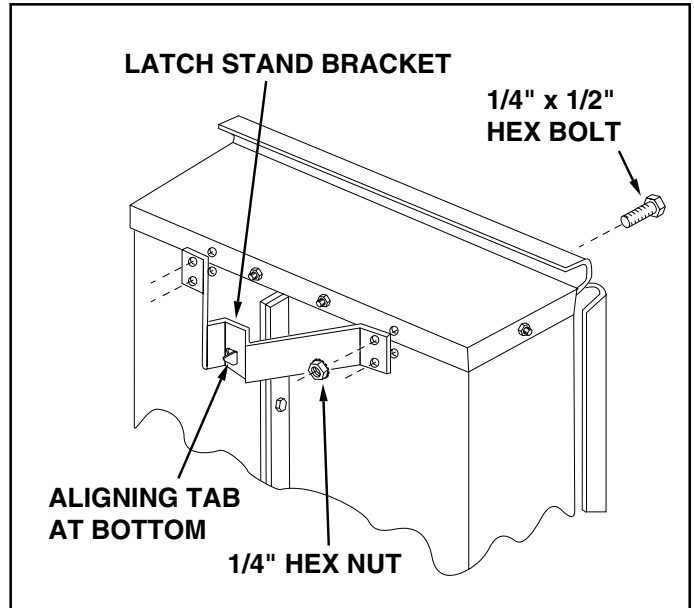

FIGURE 7
11. Turn the latch stand bracket so that the aligning tab is at the rear (bottom) of the bracket. Assemble the latch stand bracket to the cart using four 1/4" x 1/2" hex bolts and 1/4" hex nuts. **TIGHTEN**. See figure 7.